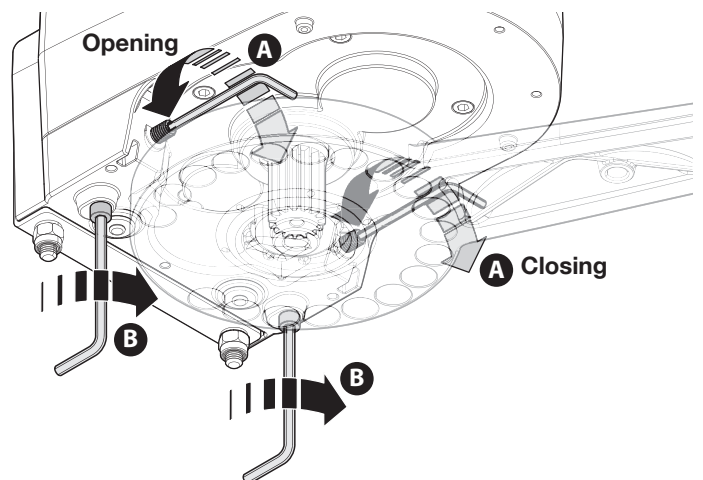

Fig. 18
07. By screwing or unscrewing the two screws **(A)** on the motor, the two limit switches can be adjusted; then, using the two screws **(B)** block the two adjusting screws **(A)** **Fig. 18**;